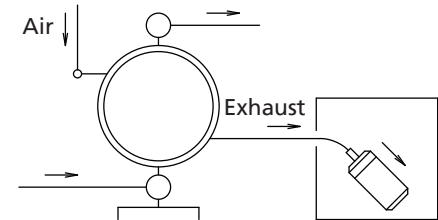

Figure 14
- Exhaust should be directed outside, not into the fluid in which the pump is submerged. For information on how to arrange the exhaust, see Note – Arranging outside exhaust and Figure 14.
- Remove the ball/flat, valve seat and O-ring (See Figure 14-A or 14-B).